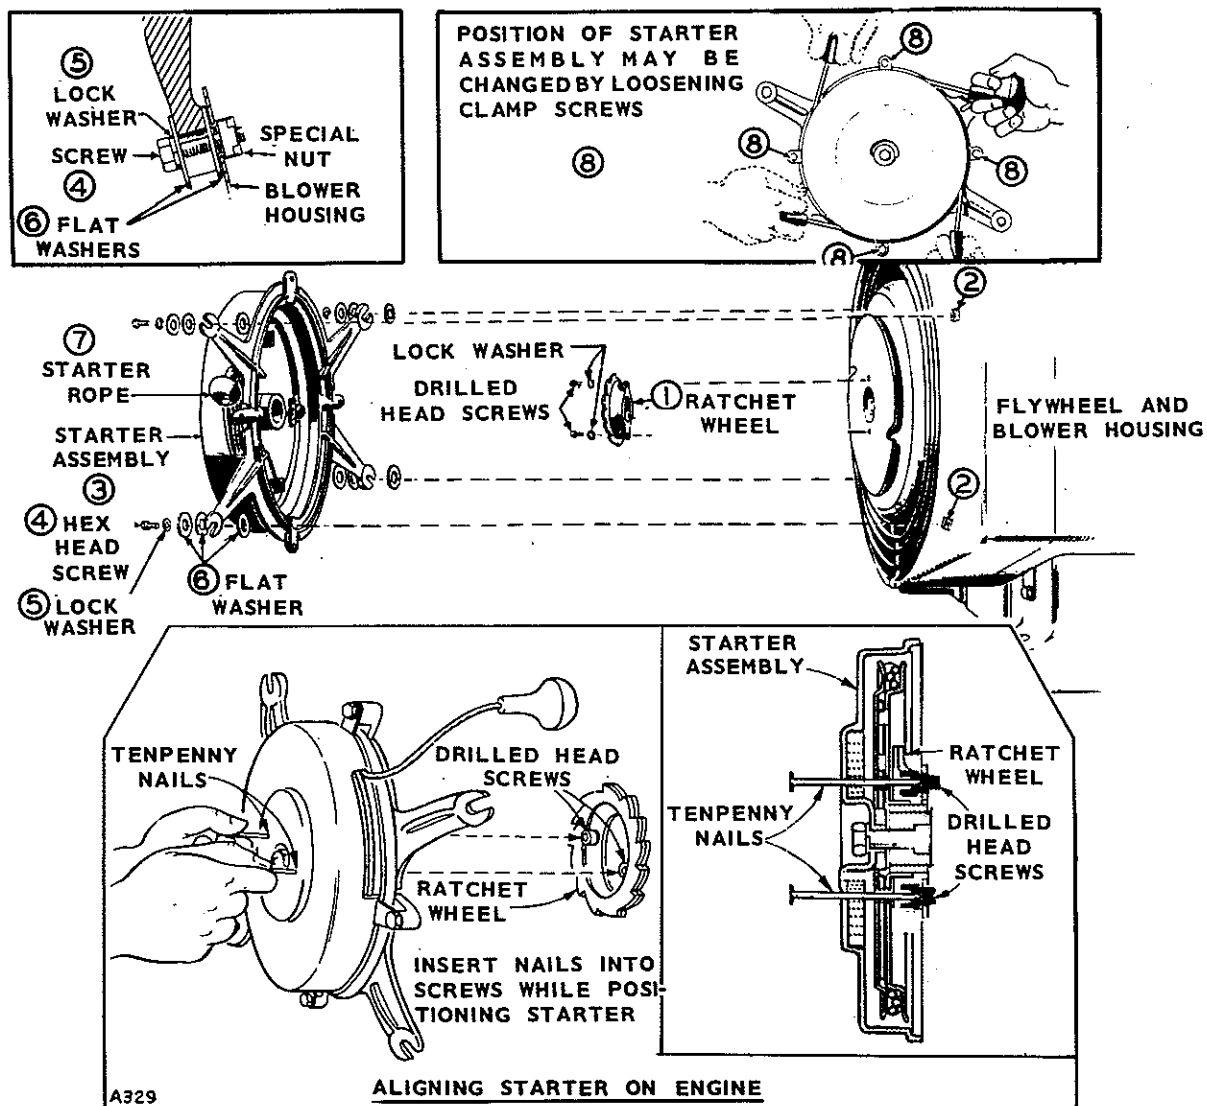

FIGURE 18-3. INSTALLING STARTER ON ENGINE (PRIOR SPEC D)
Installing the CCK Starter Units Prior to Spec D: Refer to Figure 18-3. The blower housing on the engine must be as rigid as possible. Examine the blower housing carefully. If the mounting holes are worn or if the blower housing is otherwise damaged, replace it with a new one. Proceed as follows to install the complete starter kit:
5. Install the starter assembly (3) to the blower housing, making sure that the nail ends enter the pilot holes in the ratchet wheel mounting screws. It will probably be necessary to turn the flywheel a partial revolution to allow proper alignment. While holding in position, mount the starter, using a hex head screw (4), lock washer (5) and two flat washers (6) at each mounting arm (Figure 18-3). Tighten the mounting screws securely. Remove the nails.
6. The direction of pull on the starter rope is adjustable to fit the requirements of the individual installation. See detail B. To change the direction of pull, loosen the four clamp screws (8) and turn the starter in its mounting ring to the desired position. Tighten the four clamp screws securely. Try the starter several times, making sure that the pull rope will not rub against one of the clamp screws.